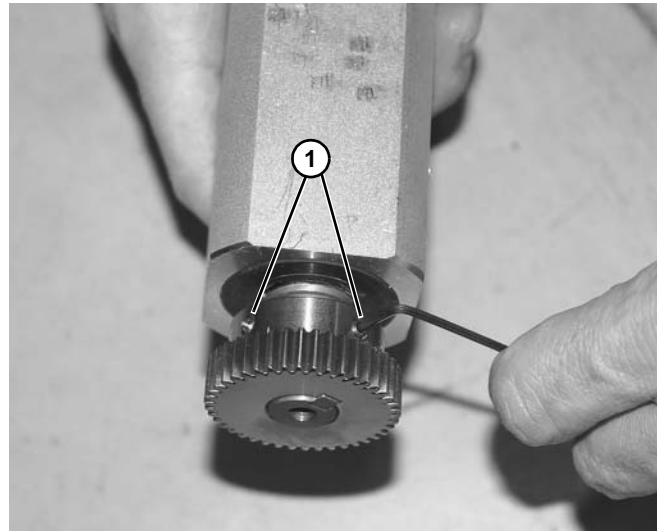

Figure 61
7. Loosen two set screws (Figure 61, item 1) on gear.